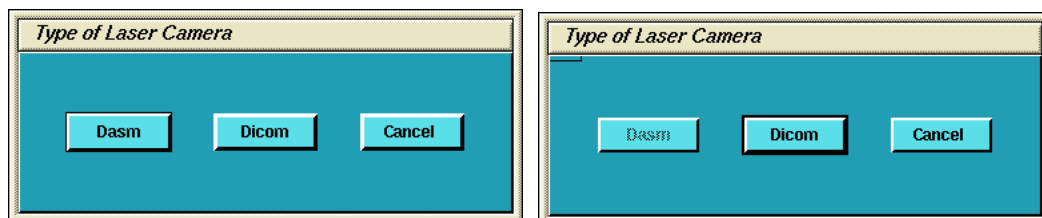

Figure 4-3 Dialog Box for camera Type (with and without DASM)
- b.) Now a dialog window for the camera type (DASM/DICOM) appears. If no DASM is detected during the OC boot, the DASM button will be disabled (See Figure 4-3). If a DASM is present and has not been detected, re-boot the OC and run the camera